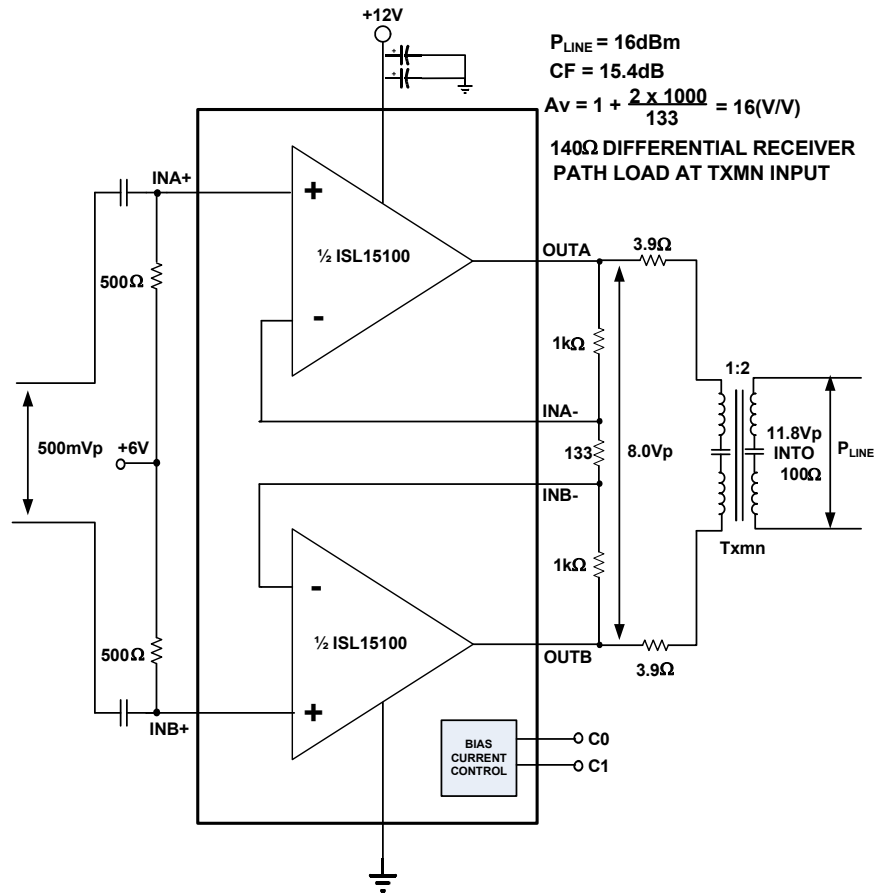

FIGURE 3. TYPICAL DIFFERENTIAL AMPLIFIER I/O
**Electrical Specifications**  $V_S+ = +12\text{V}$ ,  $V_S- = \text{GND} = 0\text{V}$ , see Figure 3, Full Bias ( $C_0 = C_1 = 0\text{V}$ ),  $T_A = +25^\circ\text{C}$ , unless otherwise specified.
**Electrical Specifications**  $V_{S+} = +12V$ ,  $V_{S-} = GND = 0V$ , see Figure 3, Full Bias ( $C_0 = C_1 = 0V$ ),  $T_A = +25^\circ C$ , unless otherwise specified.